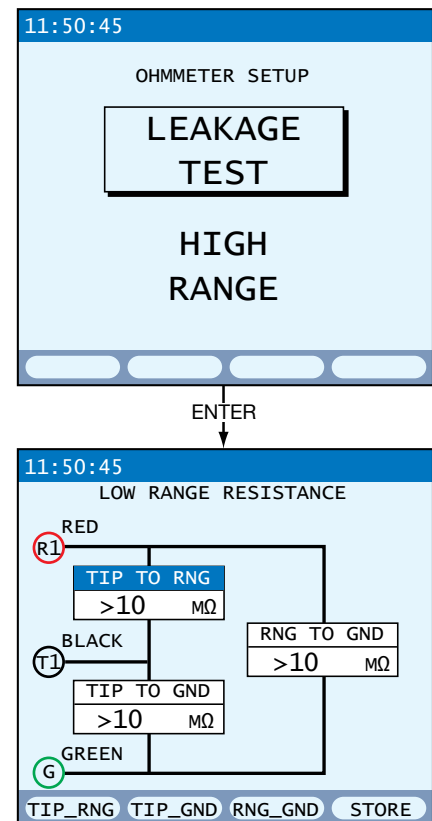

Figure 44 Resistance Screens
**Note:** All three measurements are displayed simultaneously. However, only the highlighted measurement (TIP TO RNG in the bottom screen shown in Figure 44) is a live measurement.